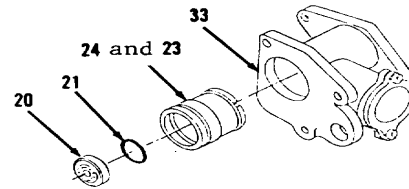

Figure 3-148.
9. Install items 24 and 23 as an assembly in housing (33, Figure 3-148).